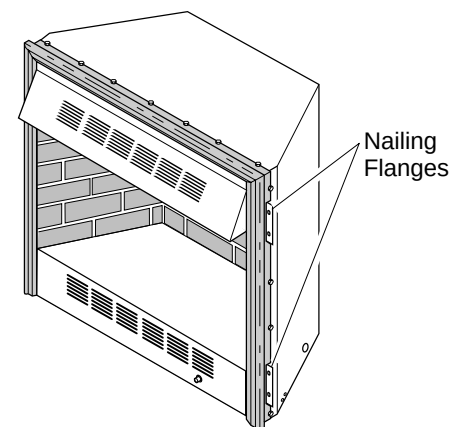

Figure 14 - Location of Nailing Flanges
7. Break off nailing flanges (see Figure 14) with hammer or pliers.